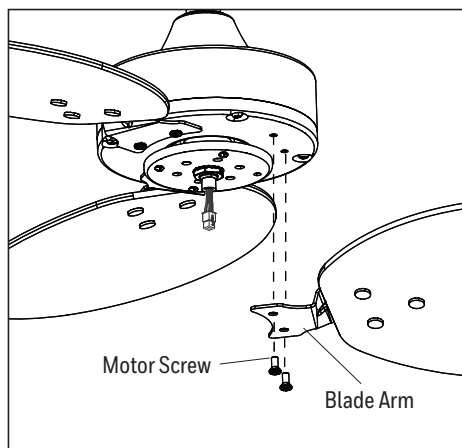

Figure 5.5
5. Install the blade arm to the underside of the motor with motor screws previously removed (Step 3, page 5). Tighten with Phillips screwdriver (not included). Repeat for each blade arm (Figure 5.5).